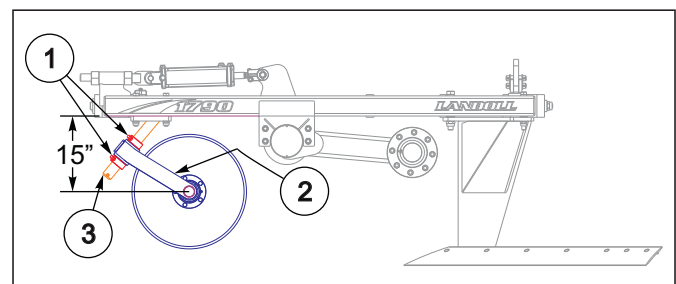

Figure 4-12: Coulters Arm Assembly Adjustment
6. The initial starting distance from bottom of frame to center of coulters hub spindle should be 15" **See Figure 4-12.** The coulters arm assemblies may be adjusted for different field conditions as needed.
7. If coulters arm assembly (2) needs adjusted, loosen set screws (1) in collars and slide coulters arm assembly up or down to desired distance. Tighten set screw in bottom collar first, then slide top collar down and tighten set screw. Be sure coulters arm will still swing freely on coulters arm shaft (3).